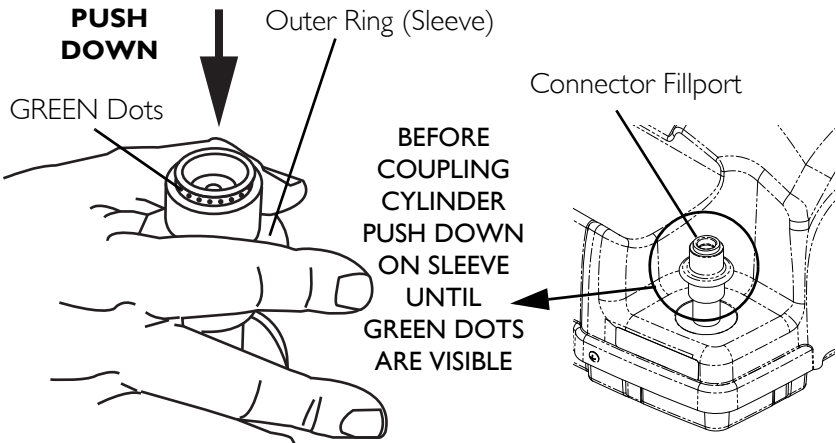

FIGURE 5.1 Resetting Connector Fillport
NOTE: For this procedure, refer to FIGURE 5.1 on page 24 and FIGURE 5.2 on page 25.
4. Momentarily push **DOWN** on the outer ring (sleeve) of the connector fillport until **GREEN** dots are visible to reset the connector (FIGURE 5.1).